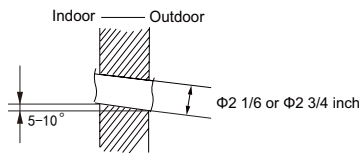

Fig.2
- (2) Open a piping hole with the diameter of  $\Phi 2 \frac{1}{6}$  or  $\Phi 2 \frac{3}{4}$  inch on the selected outlet pipe position. In order to drain smoothly, slant the piping hole on the wall slightly downward to the outdoor side with the gradient of  $5\text{-}10^\circ$ . (As shown in Fig. 2)